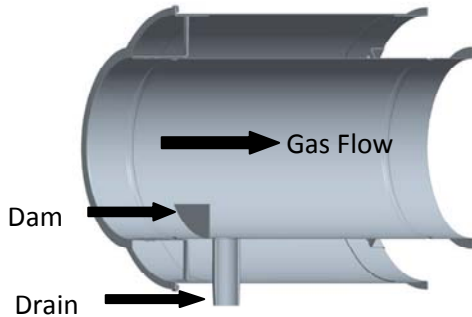

Figure 7 – Horizontal Drain Length (HDL)
1. Horizontal Drain length is equipped with a 1" (25mm) NPT nipple, which is attached to the inner flue and extends through the outer casing to provide a path to drain, condensate or water from the chimney. (See **Figure 7**)
3. The duct drain is intended for use at the end of a horizontal run where access and drainage is needed. (See **Figure 7**)